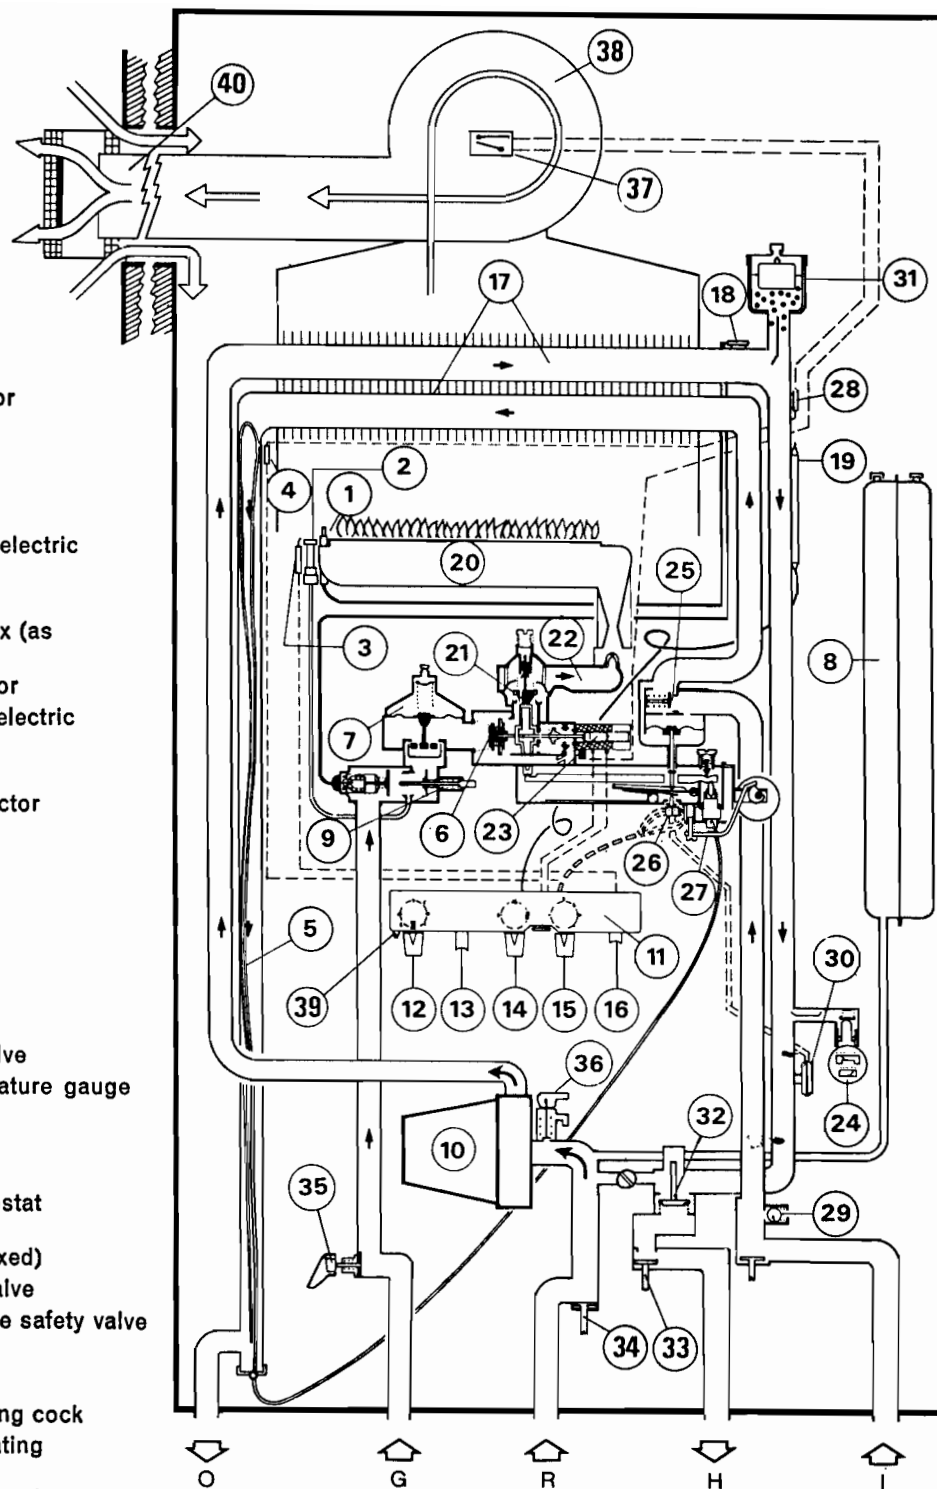

Fig. 2
Diagramatic Layout ; Fig. 2	Page 4
The boiler, a central heating and hot water appliance, was designed with great care and thought, with the installer, service engineer and, of course, the user in mind. After years of development we feel that this boiler is probably the most sophisticated available today. Fig. 2 gives you an outline of the boiler's construction.
The heating system is fitted with a pressure relief valve (36), (Fig. 2 ; p. 4), and should the pressure within the system reach 3 bars it will operate. The boiler also is fitted with an integral expansion vessel (8) to stabilise the rising pressures. The heating water passes through the pump (10) and up around the heat exchanger (17) into the outlet and past the heating thermostat phial (19) which is clipped to the heating outlet pipe within the boiler. The thermostat is operating the two-stage gas magnetic valve (23) (32v DC). This thermostat is not a modulating type. (for gas setting pressures, see technical informations - commissioning. Pages 17 and 18).
Any water treatment device to be used must be fitted before the Reducing Valve. Should the mains supply pressure be less than 0.4 bar (5.875 p.s.i.), (13'6''), at any time, the diaphragm pressure valve (25) (Fig. 2) will not be pushed down and in turn will not operate the microswitches beneath the valve: thus the supply of electricity to the control box will not pass to the gas valve which will remain closed.